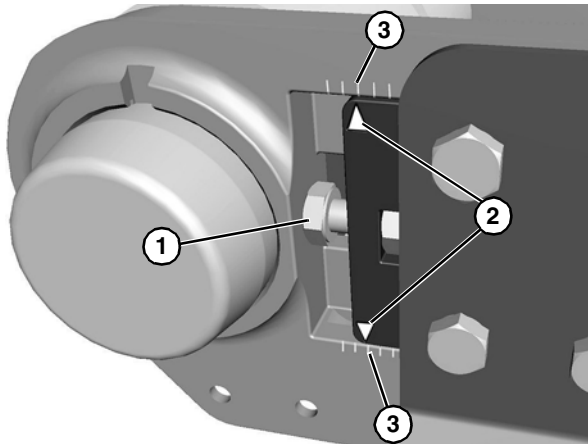

Figure 36
1. Tighten or loosen bolts (**Figure 36, item 1**) on each side to correct tracking. (Align the same arrows (**Figure 36, item 2**) and marks (**Figure 36, item 3**) on each side of the conveyor as a starting point for tracking the belt.)